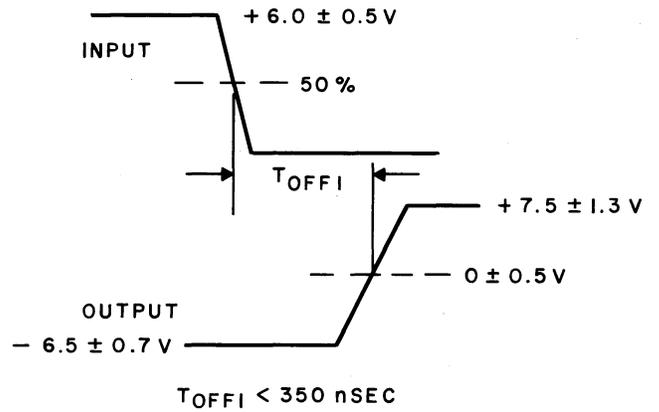

Fig. 38 - (EIA Interface Test)
(1) Set the EXT SYNC TRIGGER to (-) negative.
(2) Repeat 10.44 (1), (2), and (3). Input-output wave forms shall be as specified in Fig. 38, 39, and 40, respectively.